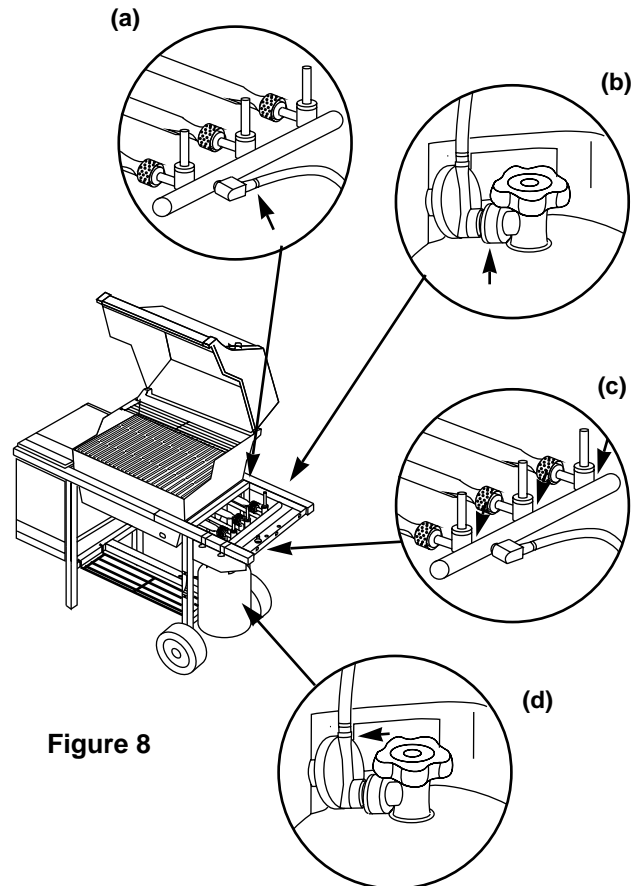

Figure 8
- Hose to manifold connection. Figure 8 (a).
- Regulator to tank connection. Figure 8 (b).
- Valves to manifold connections. Figure 8 (c).
- The hose to regulator connection. Figure 8 (d).